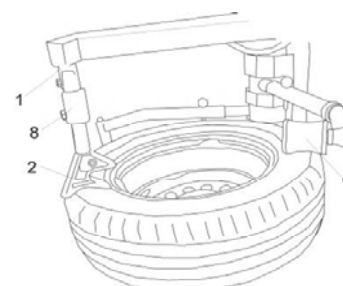

Fig 14
- a- Adjust the tire pressing roller (6) according to the tire dimension; (note: no touch on the tire rim)
- b- Down the switch handle 3 to lower the auxiliary arm, loosen the bead with the tire pressing roller 6. If need, change other positions to loosen ;(6, Fig 14)